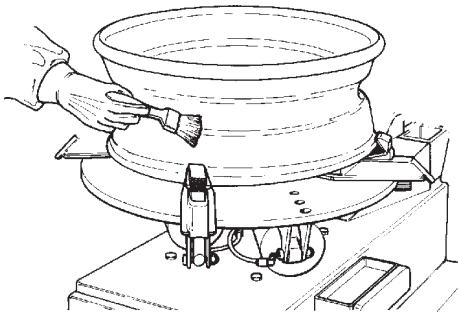

Fig. 4.2-3
**B.** Lock the rim to the turntable and rotate it so that the valve is at the 2 o'clock position. Place the tire to be mounted on the rim. Swing the mount/demount arm in so that the mount/demount head is in the working position. (Fig. 4.2-3) Position the lower bead on top of the mount/demount head and UNDER the mounting finger of the mount/demount head (Fig. 4.2-3). Turn the wheel clockwise (right pedal down) while simultaneously pushing the tire down into the drop center, opposite to the mount/demount head.